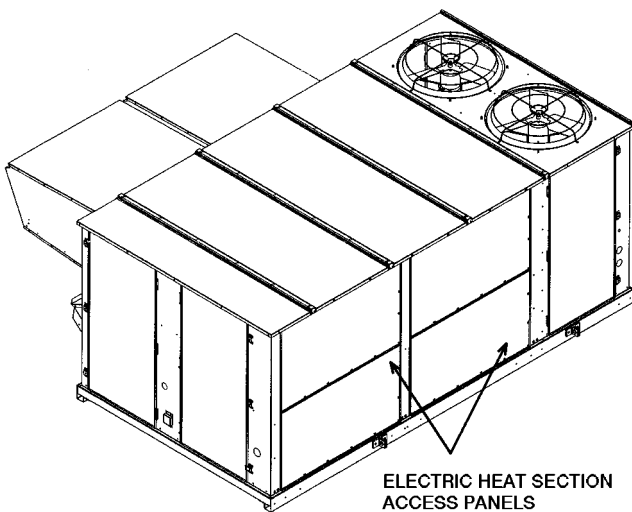

Fig. 1 — Heat Section on Typical Base Unit
2. Remove electric heat section access panels from the base rooftop unit (Fig. 1) and open the base unit's main control box access door(s).